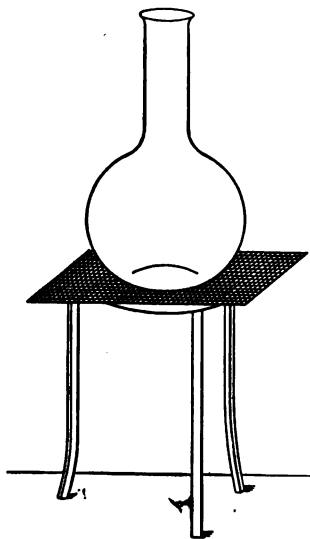

FIG. 7.
M. Right. We will make the experiment. I have here a flask made of thin glass which I can put over the flame without its cracking. In it is some water, and I shall put it over a tripod which stands above my lamp (Fig. 7).